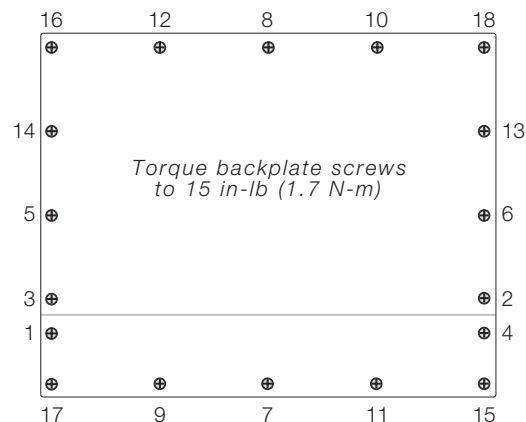

Figure 2-3. 820i/920i Enclosure Backplate
8. For indicator models that include a backplate, position the backplate over the enclosure and reinstall the backplate screws. For the 820i or 920i desktop and universal models, use the torque pattern shown in Figure 2-3 to prevent distorting the backplate gasket. Torque screws to 15 in-lb (1.7 N-m).